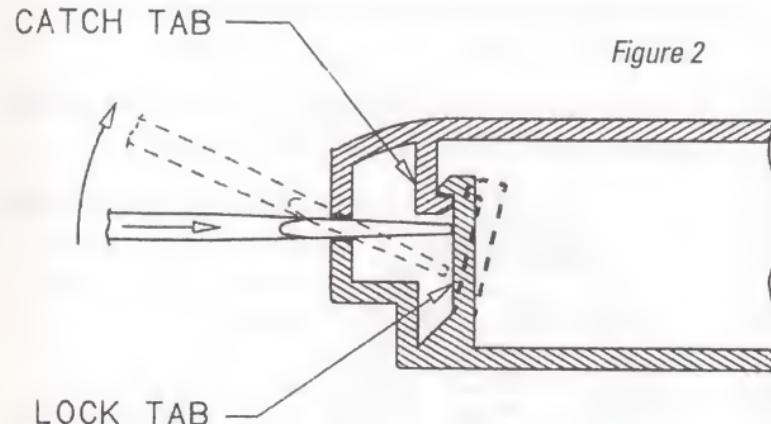

Figure 2
- d) Gently push in and pry up on the handle of the screwdriver until the lock tab disengages from the catch tab (you should feel or hear a click – see Figure 2).